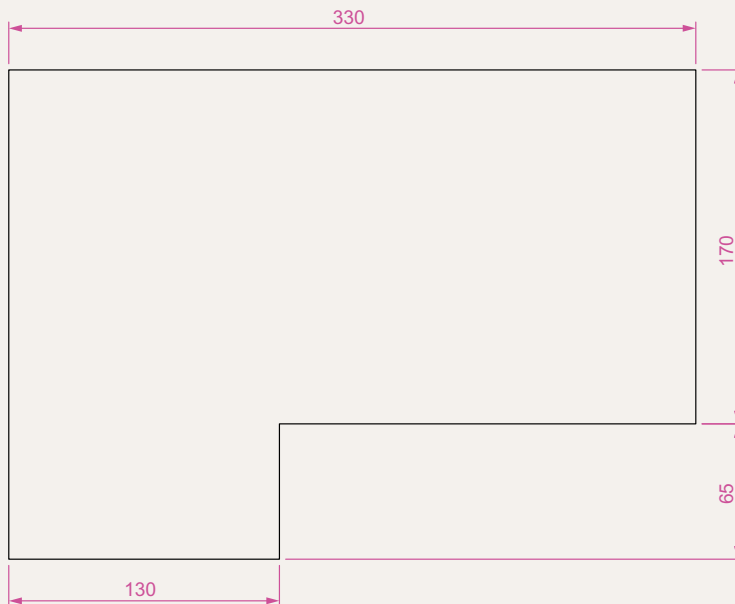
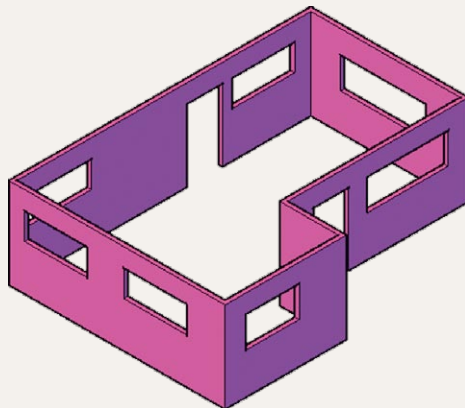

Fig. 12.42 Exercise 1 – outline for polyline
Fig. 12.43 Exercise 1
1. Fig. 12.42 shows the pline outline from which the polysolid outline (Fig. 12.43) has been constructed to a height of **100** and **Width** of **3**. When the polysolid has been constructed, construct extrusions which can then be subtracted from the polysolid. Sizes of the extrusions are left to your judgement.